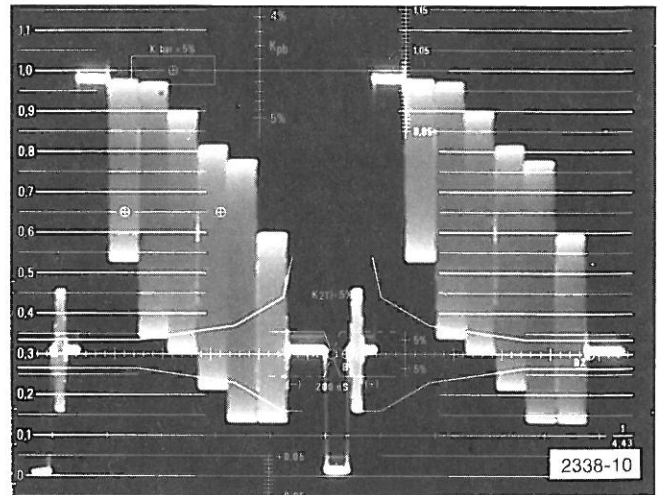

Fig. 1-11. Two-line display of test signal, 10 μ S/Division.
b. 10 μ S/DIV: Change the DISPLAY to 10 μ S/DIV and check for a 2-line display. See Fig. 1-11.